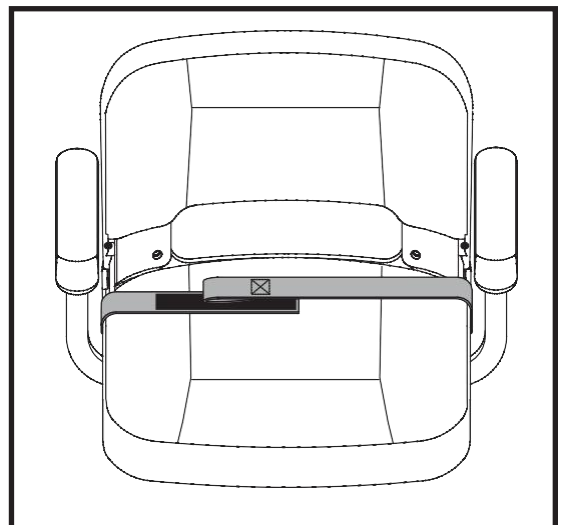

Figure 30. Positioning Belt - Reusable Hook and Loop Fastener Style
1. Align the two sides of the belt placing the looped-end side directly above the coarser side (“hook”) of the opposite belt. Press firmly together to fasten. See figure 30.